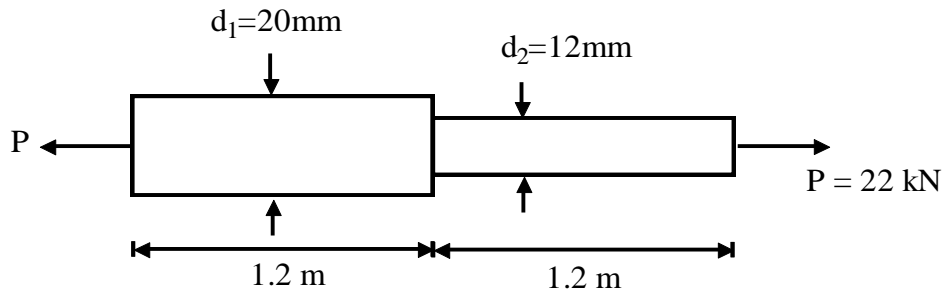

Fig. 1
1. A steel bar 2.4 m long has a circular cross section of diameter $d_1 = 20$ mm over one half & its length and diameter $d_2 = 12$ mm over the other half (fig. 1). The modulus of elasticity $E = 205$ GPa. **20**